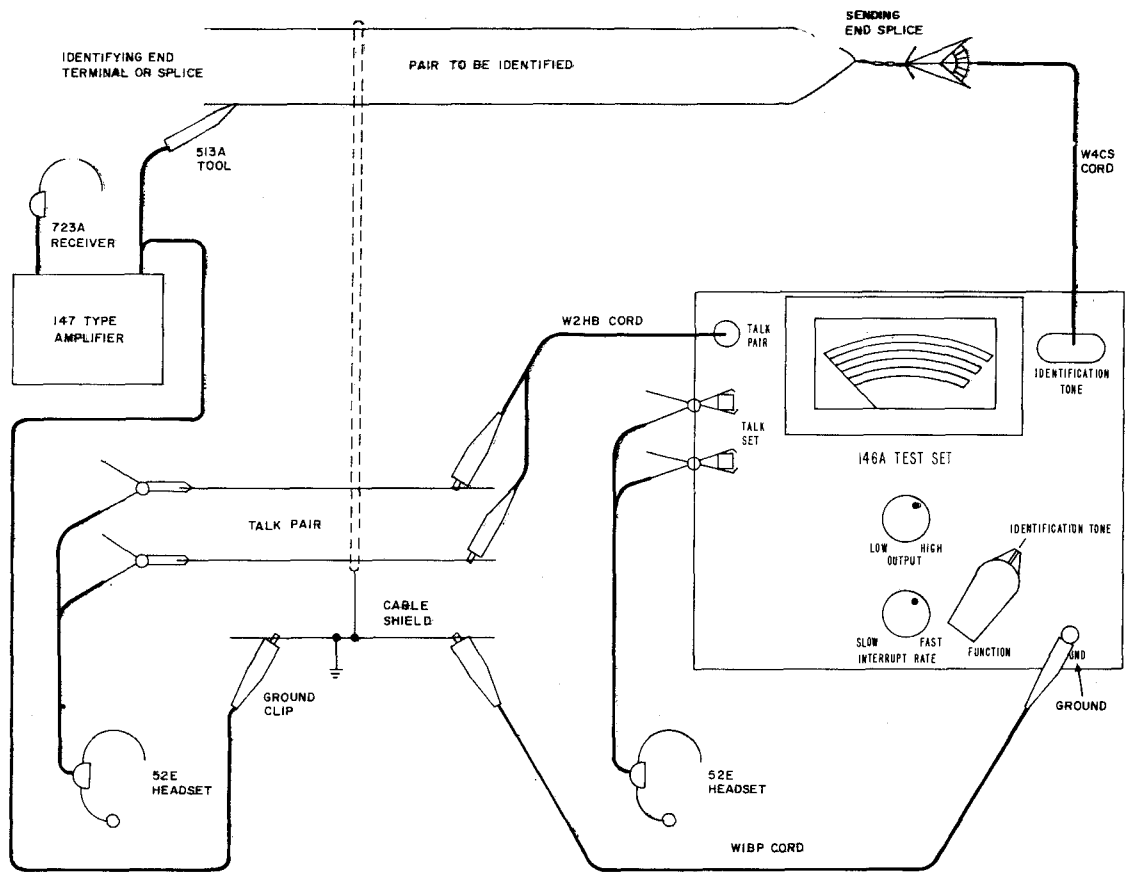

Fig. 9—Wire Identification in Trunk and Carrier Circuits
- 5.11** Plug the W4CS cord into the IDENTIFICATION TONE jacks (Fig. 9). Set the FUNCTION switch to IDENTIFICATION TONE. Fasten the W4CS cord to both the "Ring" and "Tip" sides of the first pair to be identified.